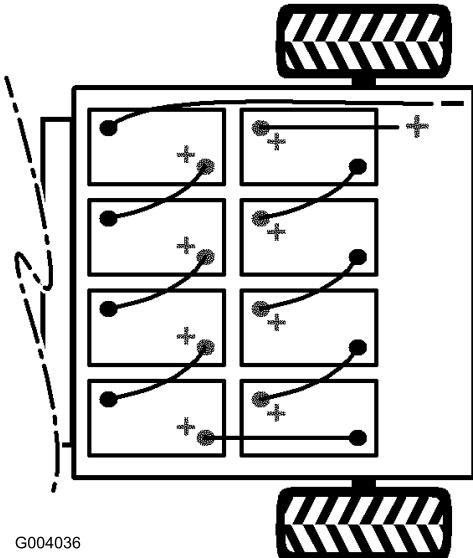

Figure 23
2. Disconnect the long, black, main negative lead running from the bank of batteries to the vehicle from the battery post (Figure 23).
3. Remove the long, red, main positive lead running from the bank of batteries to the vehicle from the battery post (Figure 23).
Note: Pay attention to the battery polarity when installing the new batteries (Figure 23).
9. Connect the batteries together with the battery cables removed previously, as shown in Figure 23.
10. Connect the long, red, main positive lead between the bank of batteries and the vehicle (Figure 23).
11. Connect the long, black, main negative lead between the bank of batteries and the vehicle (Figure 23).